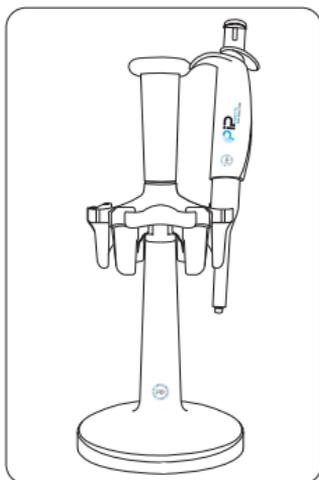

Figure 15. Proper Maintenance of P.I.P. Pipettes.
- Put the pipette vertically on a pipette stand when you are not pipetting. (figure 15)